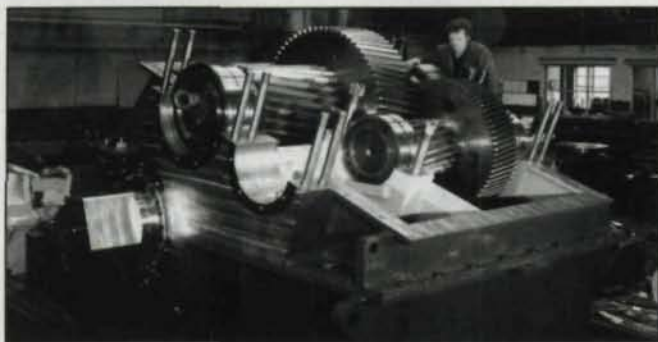

Fig. 23—Sugar mill drives.
- Sugar mill drive gears where price competitiveness is combined with heavy torque transmission (Fig. 23).